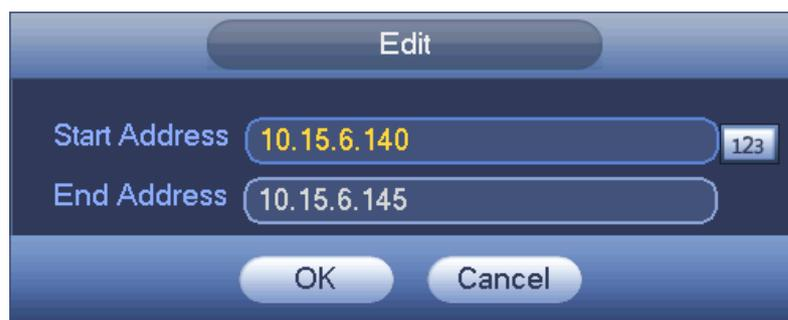

Figure 2-221
- Edit: Click it to edit start address and end address. See Figure 2-221. System can check the IP address validity after the edit operation and implement IPv6 optimization.